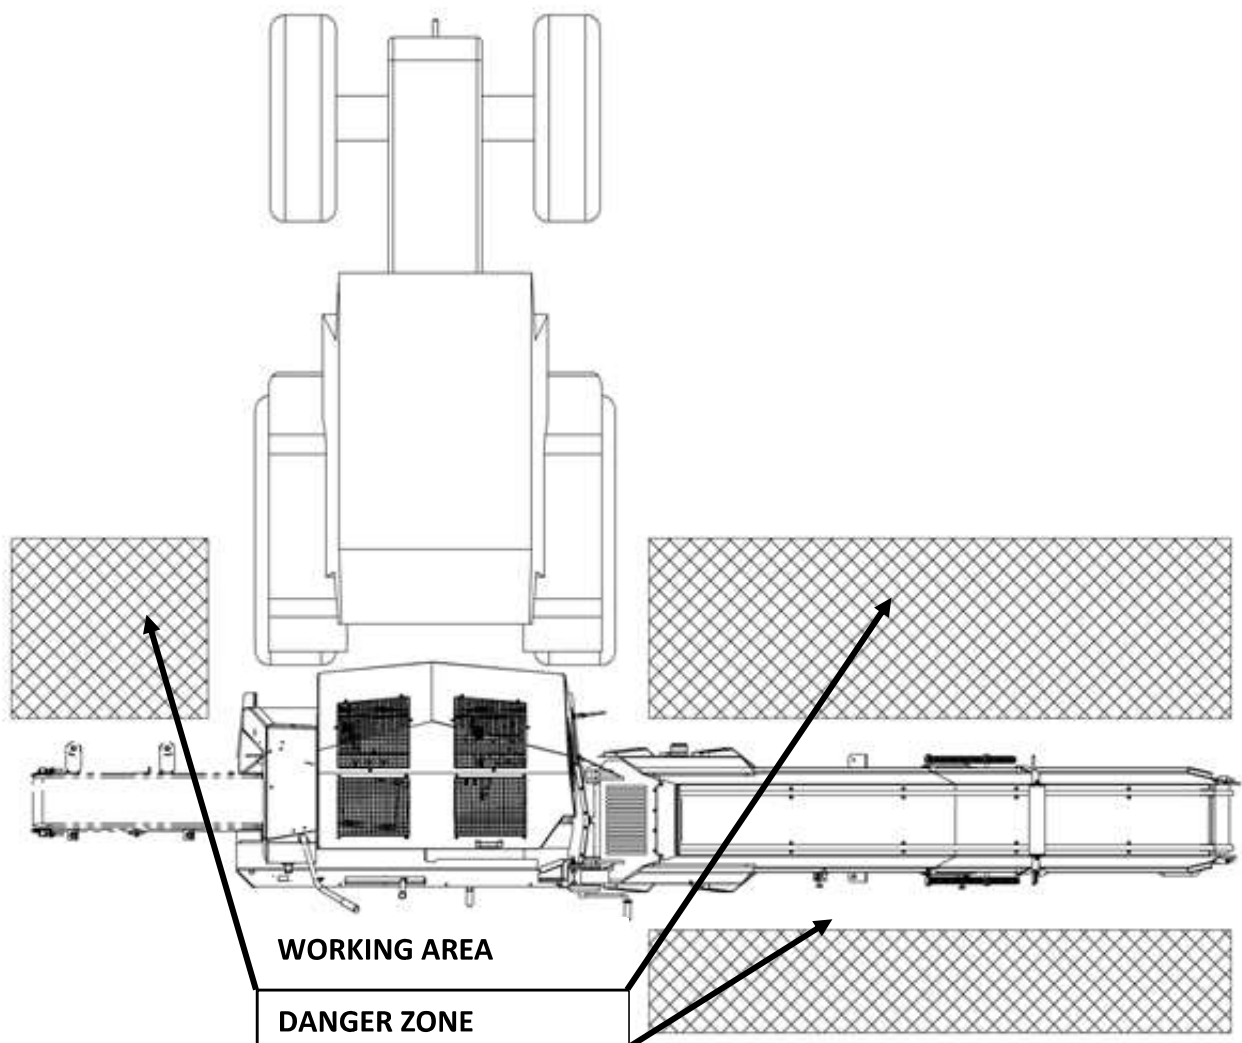

Figure 1
- It is forbidden to stay in the danger zone. (Figure 1)